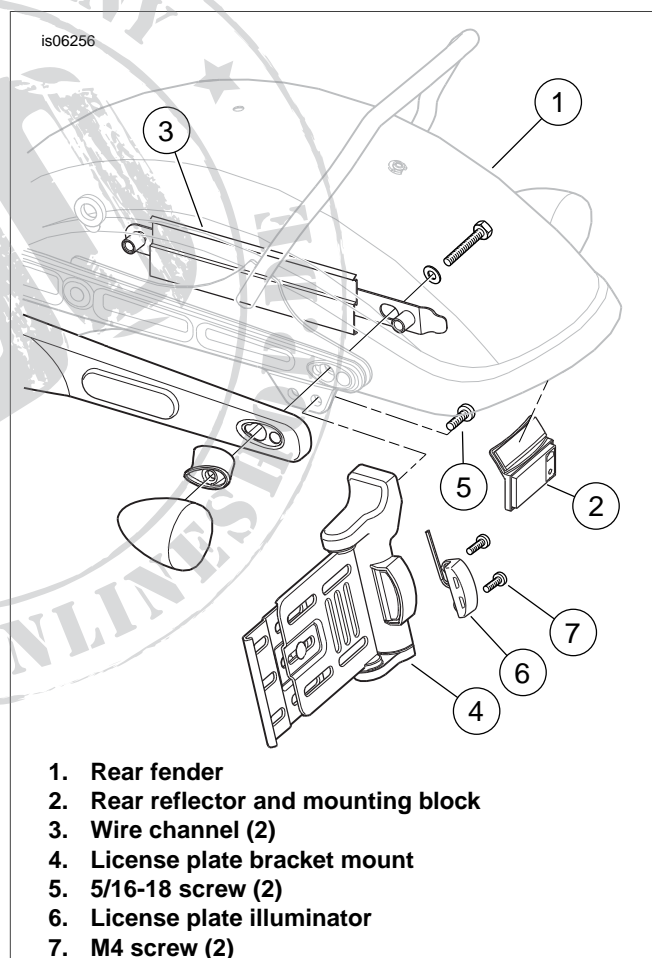

Figure 1. Rear Fender, Models Without Center Tail Lamp
See Figure 1. The reflector mounting block (2) is held to the fender (1) with double sided tape. Remove with care to avoid scratching paint.